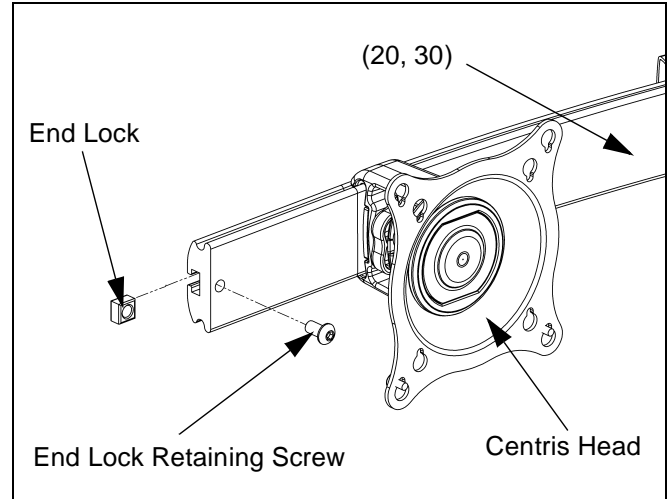

Figure 13: Reinstall End Lock(s)
- Reinstall end locks into mounting rail using the 5/32" hex key (120) (see Figure 13).